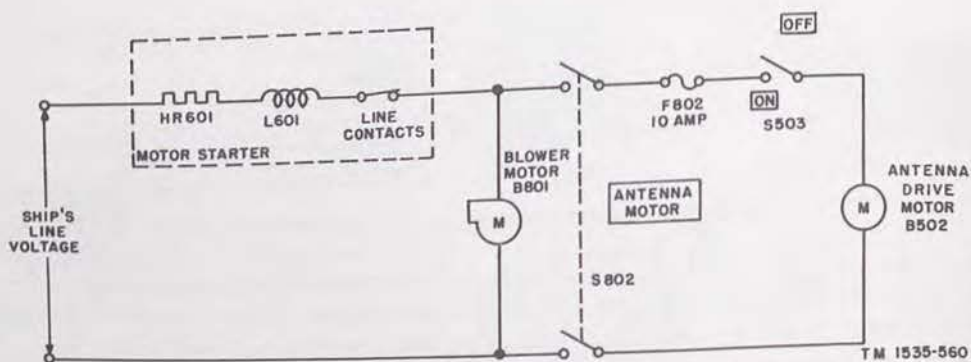

Figure 81. Power for blower motor and antenna drive motor.
b. *Blower Motor and Antenna Drive Motor* (fig. 81).
- (1) The receiver-transmitter blower assembly consists of motor B801, a guarded fan, a replaceable air filter, and duct work. As soon as the switch box lever is placed in the on position, the ship's supply voltage is fed through heater HR601, blowout coil L601, and the line contacts